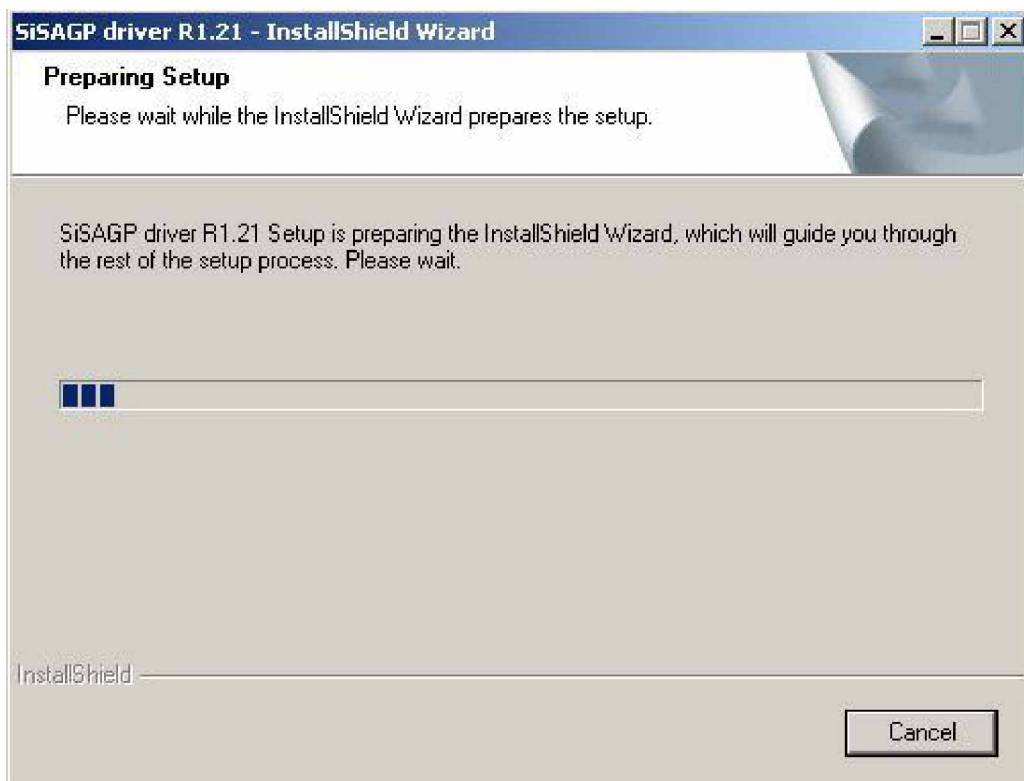

Figure 6-2: Preparing Setup Screen
Step 3: The “**Preparing Setup**” window in **Figure 6-2** appears next.